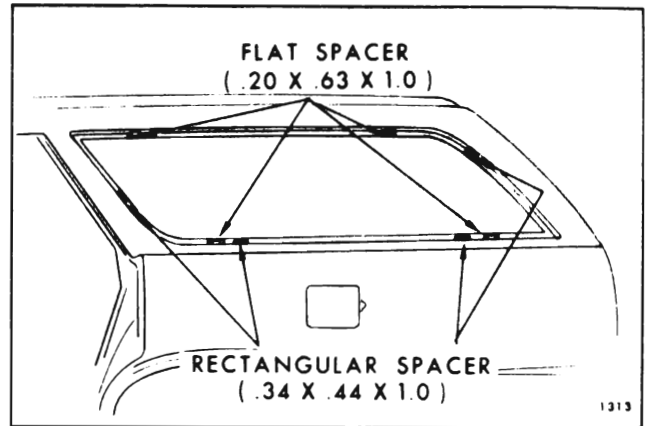

Fig. 4-20—Rear Quarter Window Spacer Installation
- With black weatherstrip adhesive cement four flat spacers (.20 x .63 x 1.0 - Part No. 4459429 or equivalent) to pinchweld flange; two at top and two at bottom (see Fig. 4-20).
- With black weatherstrip adhesive cement four rectangular spacers (.34 x .44 x 1.0 - Part No. 4871330 or equivalent) to rear quarter window opening rabbet; two at sides and two at bottom (see Fig. 4-20). Both side spacers should be cemented in the approximate position indicated in Figure 4-20. Both thinner (#4404196 or equivalent) and thicker (#4534314 or equivalent) rectangular spacers are available as service parts.